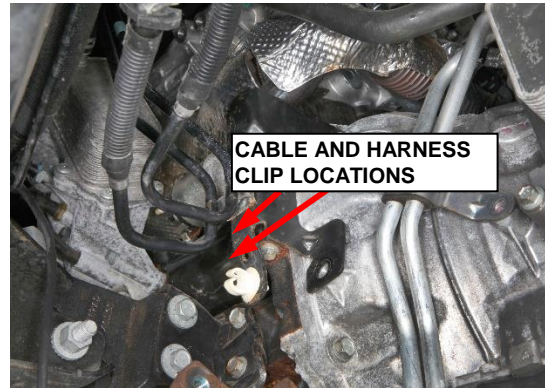

Figure 21 – Cable and Harness Clip Locations
41. Release the MRP cable and wiring harnesses from the upper bracket (Figure 21).
22. Install the MRP cable and wiring harnesses to the upper bracket (Figure 21).